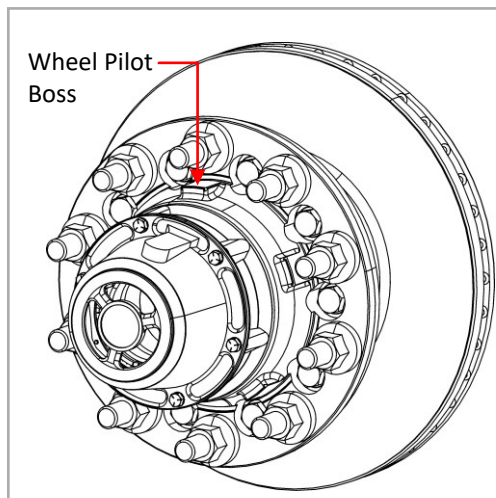

FIGURE 24. Rotating the Hub
3. Before installing the wheel, rotate the Hub so that one of the wheel pilot bosses is at the top (12 o'clock position) (see Figure 24).